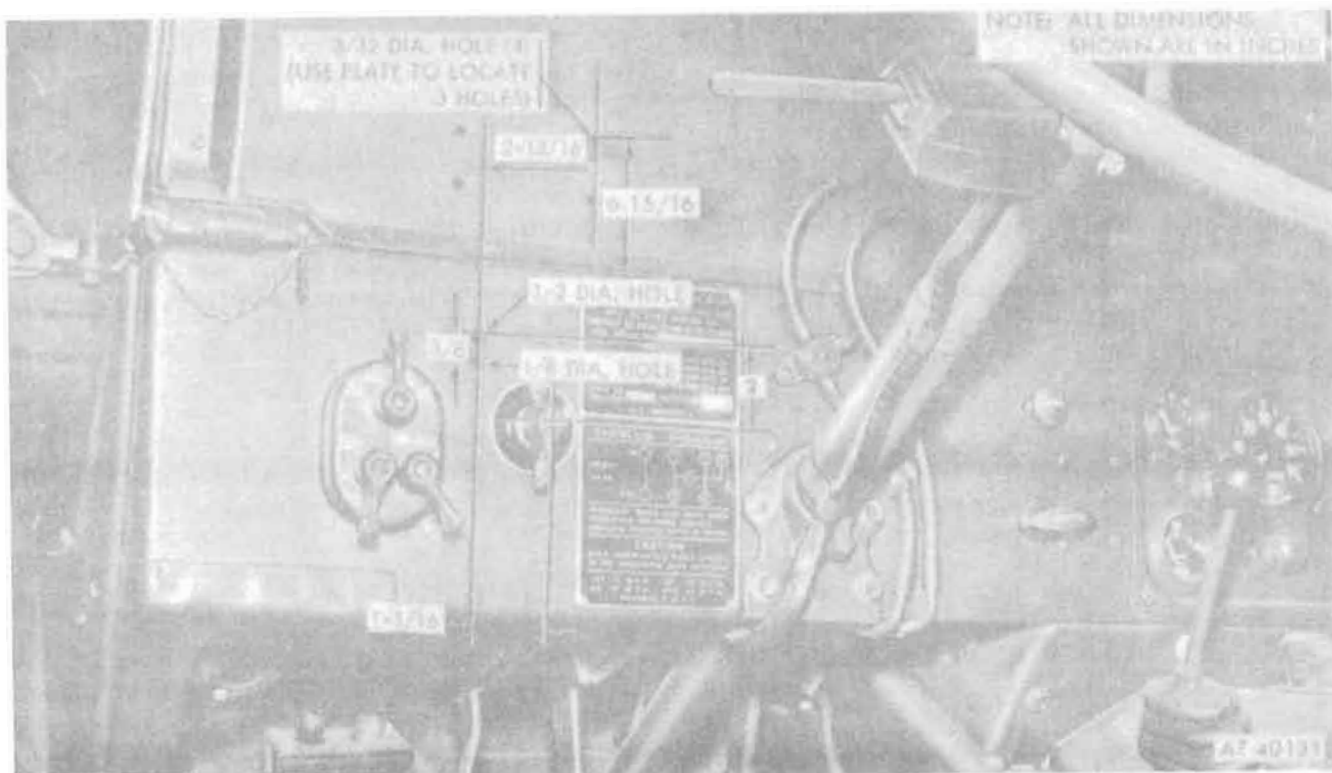

Figure 18-68. Left dash panel and windshield drilling.
- h. Locate and drill one 1/2-inch diameter hole and one 1/8-inch diameter hole in left side of dash panel (fig. 18-68).
- i. Locate and drill four 3/32-inch diameter holes in left side of windshield (fig. 18-68).